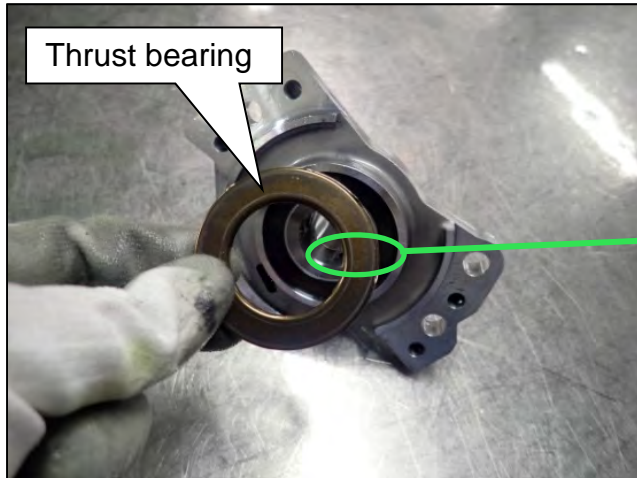
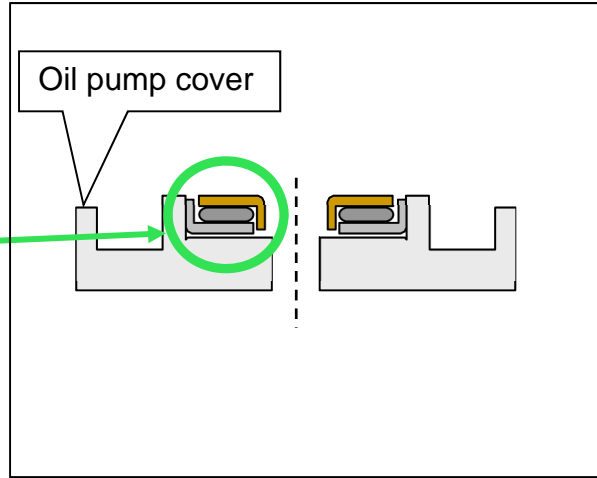

Figure 128
Figure 129
- g. Install the original thrust bearing in the correct orientation as shown in Figure 128 and Figure 129.